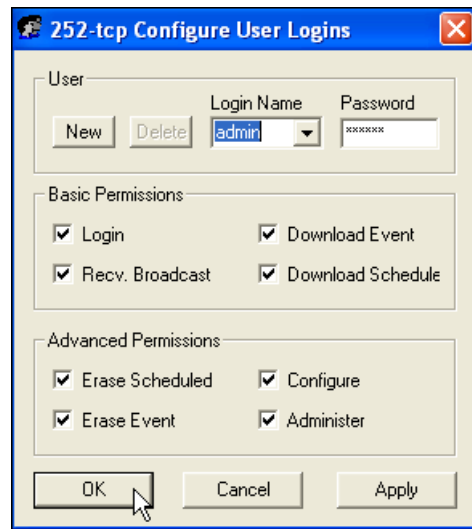

Figure 7.22: Security, User Permissions Window
3. Select OK, and the desired functions should be available, seen by the buttons activating (changing color). Select Connection > Configure > User Logins to activate the Configure User Logins window seen in Figure 7.22.